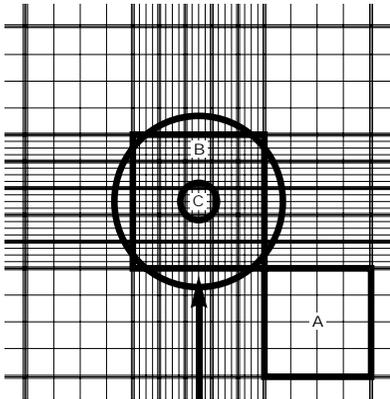

Fig. 1. Hemocytometer grid.
A hemocytometer is usually divided into nine large squares (Figure 1). Each large square is $1 \times 10^{-4} \text{ cm}^2$ or 0.1 mm^3 , two such squares are shown the figure with darkened borders (A&B). The large circle around the center square (B) represents your field of view at 100x power (10x objective lens, 10x eye piece). The center square is subdivided into 25 smaller squares. The smaller circle in the center square (C) represents your field of view at 400x power (40x objective lens, 10x eye piece). These 25 center squares are further divided into 16 squares.